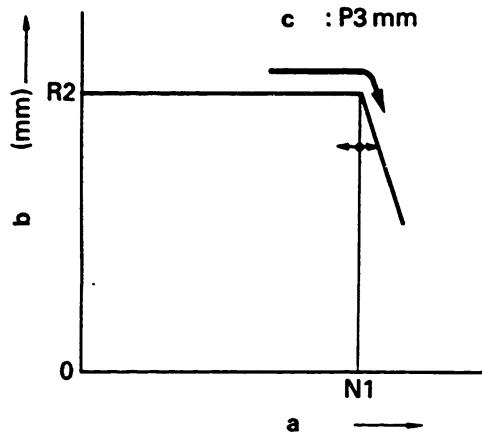

Fig. 70
2. Increase pump speed and adjust adjusting bolt (130) so that the control rack begins to move from R2 in "fuel-decrease" direction. (Figs. 70 and 71)